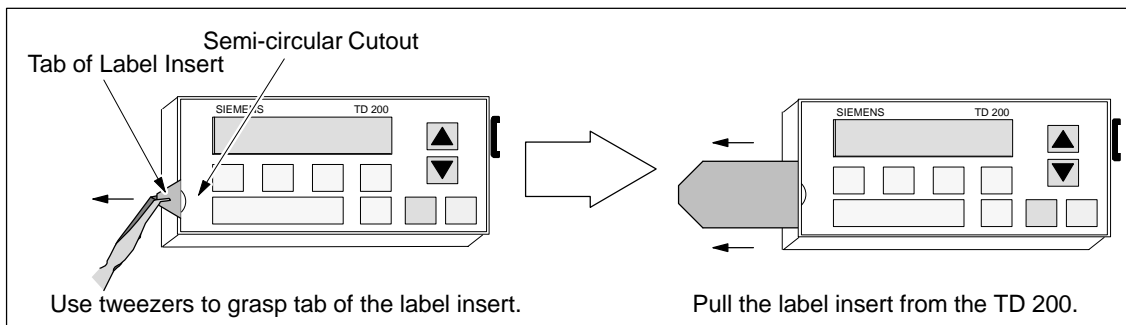
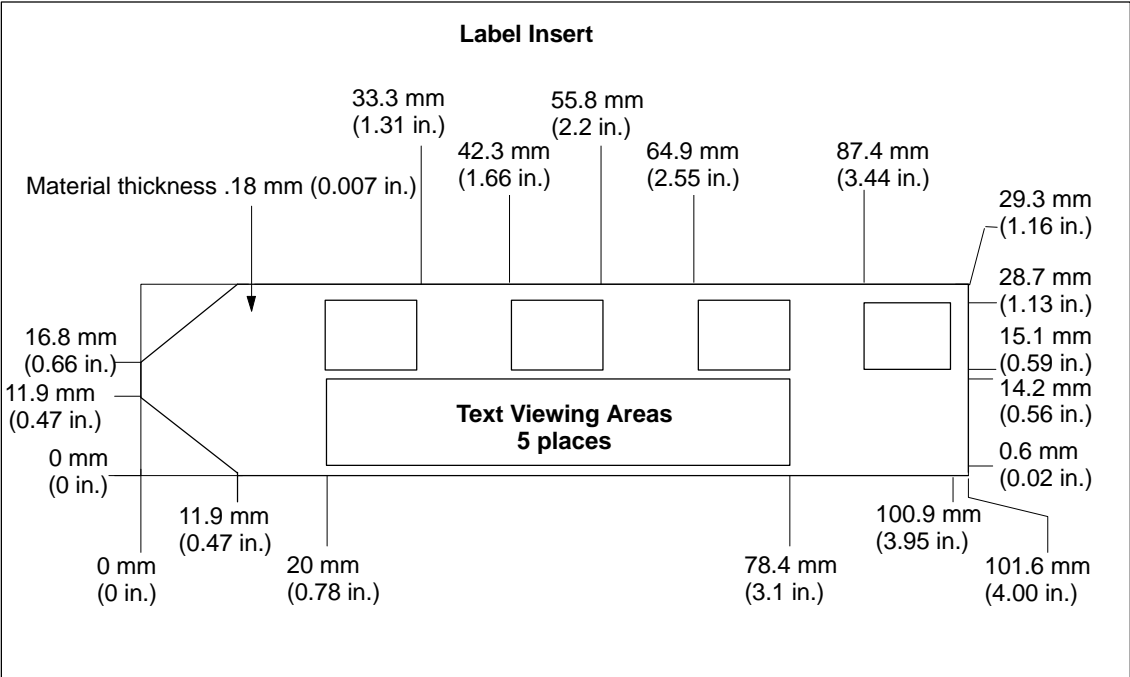

Figure 1-2 TD 200 Keyboard Label Insert
Figure 1-3 Customizing the TD 200 Keyboard
The keyboard has a removeable label insert (shown in Figure 1-2), so that you can supply a custom keyboard template. Figure 1-3 shows the TD 200 keyboard label insert dimensions.
1. Remove the label insert by pulling the label insert tab out of the semi-circular cutout with a pair of pointed tweezers. See Figure 1-2.
3. Customize the label insert on the reverse side, or create a custom keyboard template following the dimension guide in Figure 1-3.